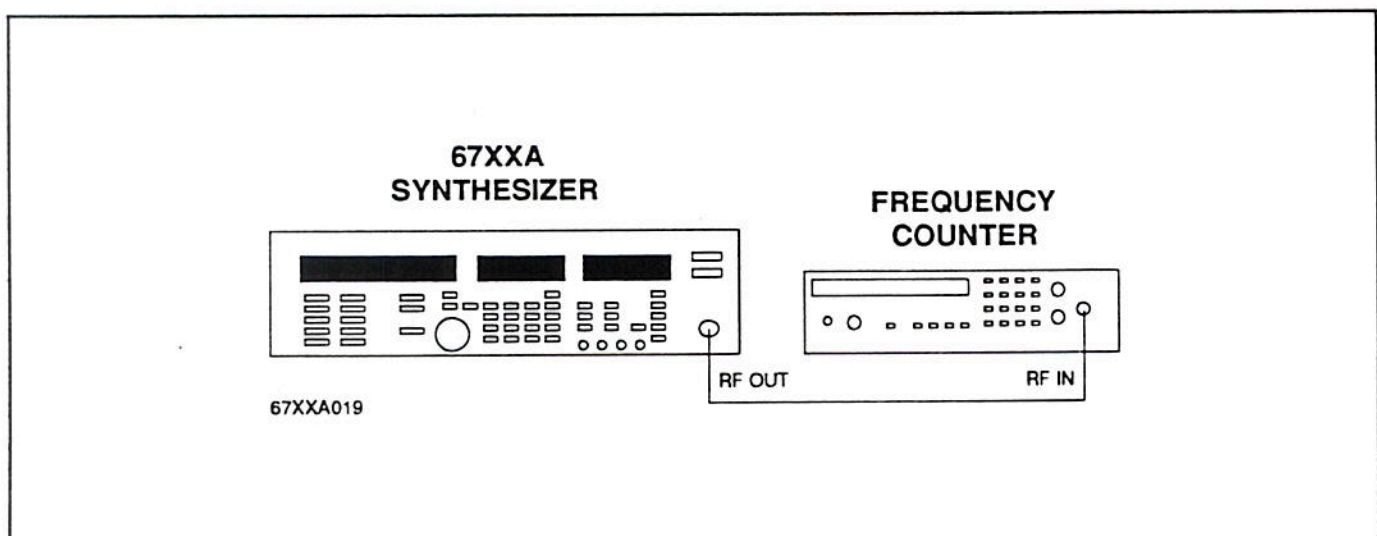

Figure 3-12. YIG Oscillator Frequency Calibration Test Setup
a. **Test Setup.** Connect the equipment as shown in Figure 3-12 and turn the equipment on.